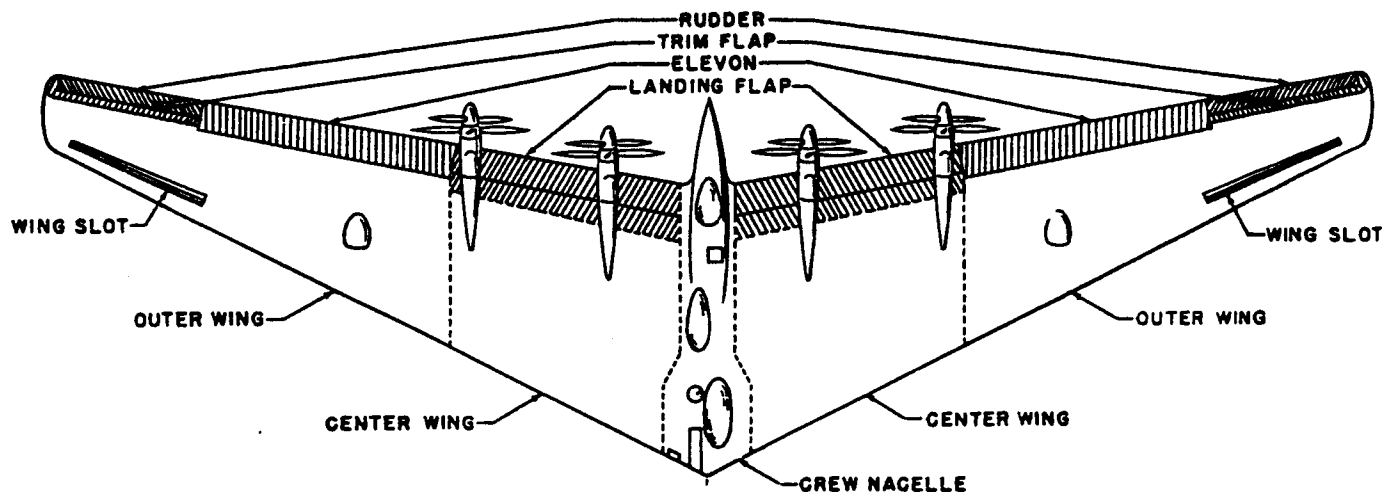
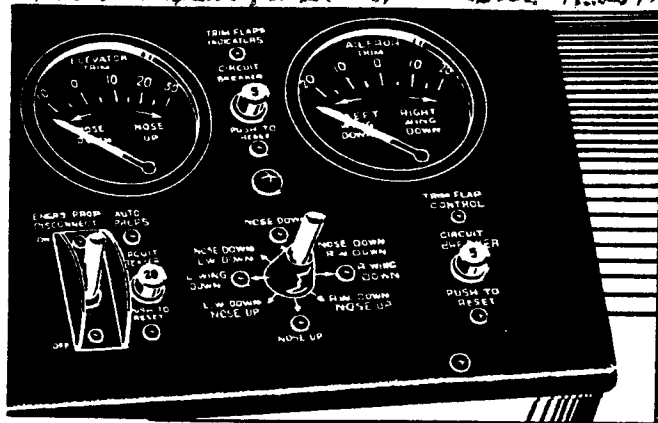

Figure 3. Airplane Plan View
Figure 5. Trim Flap Controls
2. FLIGHT CONTROLS.- Conventional control wheels and columns are provided for the pilot and copilot. The rudder pedals are somewhat unconventional in operation inasmuch as they operate independently of one another. Due to the elevons and rudders being power operated, only friction loads are placed on the control systems, therefore, mechanical loads have been imposed on the control systems to lend "feel" to elevon and rudder operation. A control force bellows is connected to the pilot's control column, and spring assemblies are attached to the control wheel mechanisms and to the copilot's rudder pedals to add "feel" to these controls. The spring assemblies, attached to the rudder pedals, are used to preload the pedals and are also connected to the rudder trim control for rudder trim. See figure 3. for identification of the control surfaces.
3. ELEVONS. (See figure 3.)- These surfaces are normally actuated by hydraulic pressure, but, in case of a hydraulic failure they may be operated electrically. The elevons function as both elevators and ailerons. Fore
8. TRIM FLAPS. (See figure 3.)- The trim flaps are used for either aileron or elevator trim. The trim flaps are electrically actuated and controlled by an eight-position switch located on the pedestal between the pilot and copilot. (See figure 5.) Two trim flap position indicators are installed on the pedestal immediately forward of the control switch. One indicator shows the amount of aileron
9. LANDING FLAPS. (See figure 3.)- Electrically operated landing flaps are used on this airplane. A control switch is located on the pedestal within reach of either the pilot or copilot. The switch has "UP," "OFF," and "DOWN" positions. By moving the switch to the "OFF" position the landing flaps may be held in any desired position. The landing flaps are used for landing only. They lower the stall speed only slightly, but they will appreciably steepen the glide path of the airplane and decrease the angle of attack, thus allowing improved visibility. The landing flaps may be lowered to 50°, however, they should not be lowered over 30° on this airplane.
11. WING SLOT DOORS. (See figure 3.)- An upper and lower door control the flow of air through the slot in each outer wing. The doors are electrically controlled and hydraulically actuated. A three-position switch, located on the control pedestal, allows the pilot manual or automatic control of the doors. (See 17, figure 7). Automatic control of the doors is accomplished through the use of pressure switches which measure the air pressures on the upper and lower wing surfaces, opening or closing the doors at pre-determined lift coefficients. Since it is desirable to have the slot doors open during take-off and landing, a landing gear operated switch has been installed which opens the doors when the landing gear is down. Indicator lights for the "DOORS OPEN" position are located on the instrument panel. In case of an electrical or hydraulic failure, the doors will assume the full open position. If one set of doors should be held open or closed due to a mechanical failure, the pilot may place the doors in the other wing in the same position by placing the control switch in the "OPEN" or "CLOSED" position as necessary.